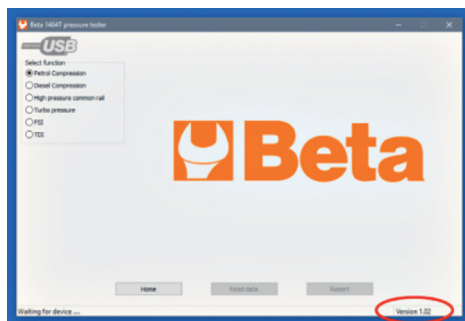

Fig.1
- Make sure version of the PC software is 1.2 or higher. In the case that the PC software version is lower, just run the software and it will be updated automatically, once the software is launched just wait about one minute to allow the new PC software to be downloaded, next time you launch the software you will see the new version installed. (You can see the version on the lower right corner of the window. See fig. 1)